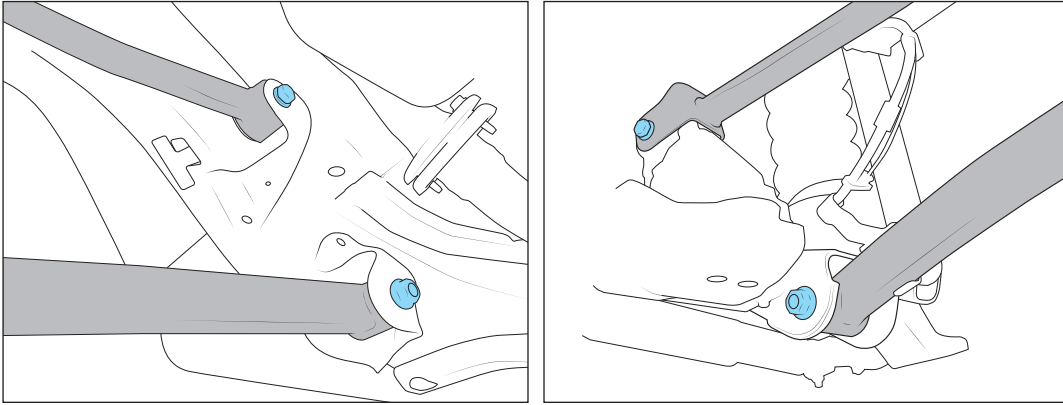

Figure 11: Frame-side (left) Axle-side (right)
2. Loosen but DO NOT remove all 8 control arm bolts (Fig 11).